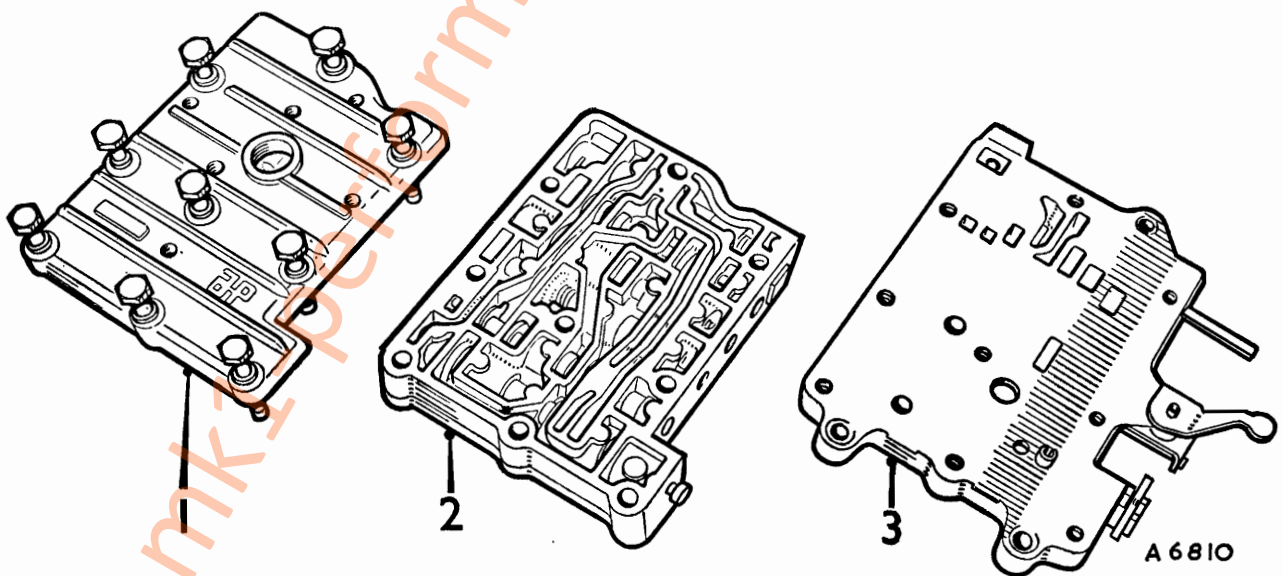

Fig. Fa.25
- (1) Remove the front grille.
- (2) Remove the filter assembly as detailed in Section Aa.2.
- (3) Remove the engine oil feed pipe.
- (4) Drain the engine/transmission unit.
- (5) Remove the transmission front cover and valve block bobbin.
- (6) Place the gear selector lever in the 'R' position on the quadrant.
- (7) Remove the bell-crank lever clevis pin. Unscrew and pull out the selector rod sufficiently to remove the valve block.
- (8) Loosen the servo unit securing bolts.
- (9) Remove the valve block assembly as individual components, i.e. the lid, valve chest, and finally (if necessary) the pipe chest (Fig. Fa.25).
- (14) Remove the lid and valve chest from the pipe chest (if removed as a unit), see Fig. Fa.25.
- (15) Remove the selector and governor valves.
- (16) Remove the 'C' clips and the plugs. Remove the regulator valve, spring, and reverse booster piston assembly.
- (17) Remove the 'C' clip and the plug. Remove the tow-start valve, spring, and spring retainer.
- (18) Remove the 'C' clips and the plugs. Remove the second and fourth gear valves, spring, and booster piston.
- (19) Remove the 'C' clip and tap out the plug. Remove the third gear valve booster piston, spring, spring retainer, and the plastic plug.